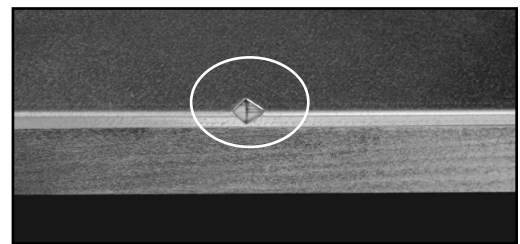

Fig. 02
4. Place trim kit base and align centerline mark to the triangular notch on the front edge of the base (Fig. 02).